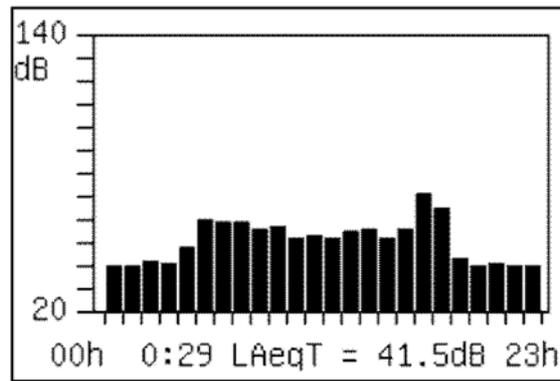

Fig. 45: Display of distribution graphic of the "24H" analysis values
2. Press the key to display in detail the value of each interval considered (e.g.: 8 intervals in Fig. 45). Press the or keys to go to the next pages and the "." or "." keys to display the values of parameters **Ld**, **Ln** and **Ldn**